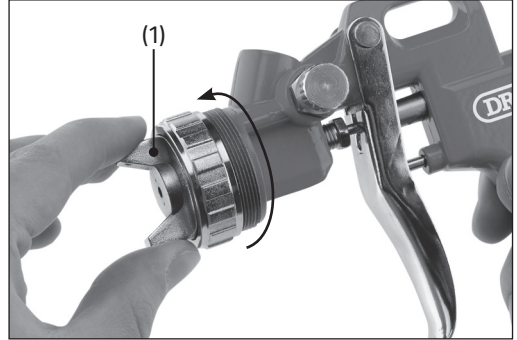

Fig. 18
- a. Twist the air cap (1) anticlockwise to remove it (Fig. 18).